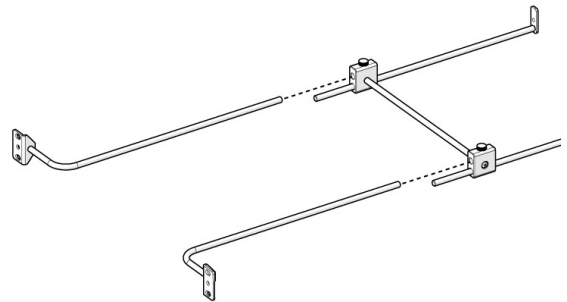

Figure 6. Rear rack mounting poles
- Step 3.** Insert the two rear rack mounting poles into the top holes of the adjustment blocks (see Figure 6).